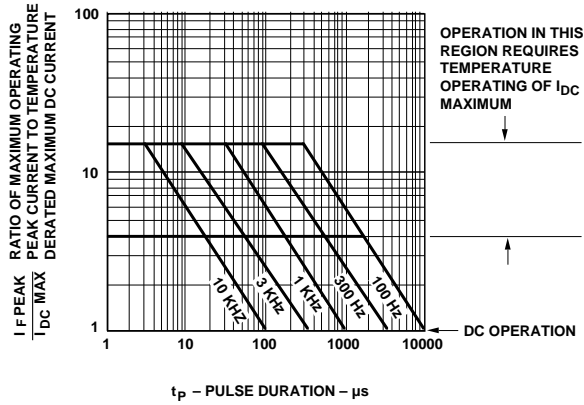

Figure 1. Maximum Allowed Peak Current vs. Pulse Duration – AlGaAs Red.
1. See Figure 1 to establish pulsed conditions.